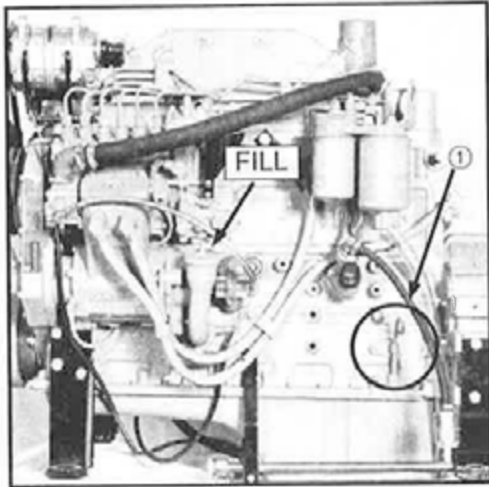

FIG 8.1
OIL LEVEL - The engine oil level dipstick is located on the left-hand side of the engine (fig. 8.1, item 1). Never operate the engine with the oil level below the "L" (low) mark or above the "H" (high) mark. Wait at least five minutes after shutting off the engine to check the oil level; this allows time for the oil to drain to the oil pan. Check the engine oil level daily.